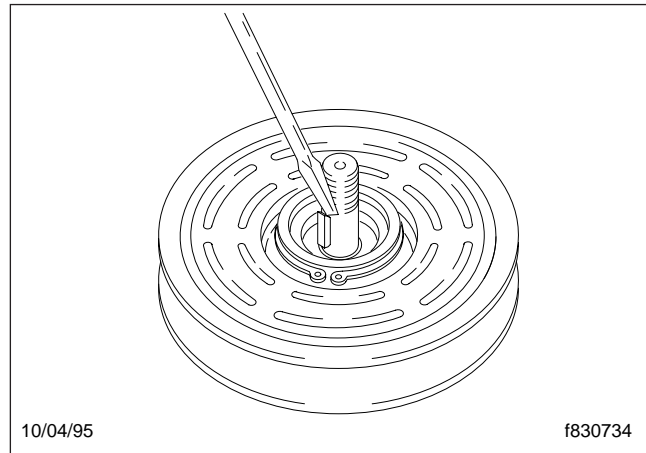

Fig. 4, Remove the Shaft Key
5. Remove the pulley bearing dust cover (if equipped), the shaft key, and the clutch shims. Use a slotted screwdriver and hammer to tap the shaft key loose. See Fig. 4.